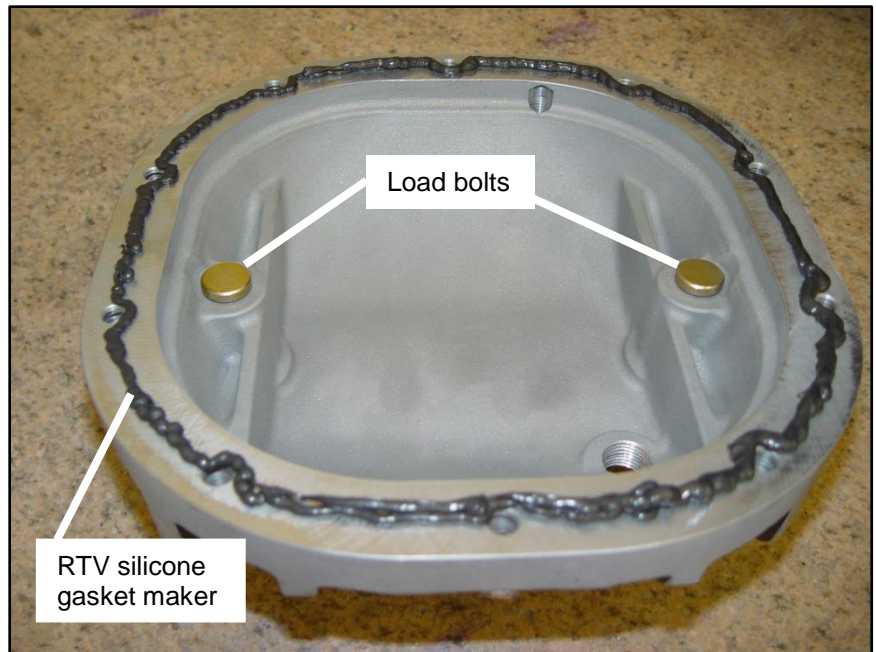

Figure 4
STEP 11. Apply a bead of RTV silicone gasket maker to the **B&M Cast Aluminum Rear End Cover**. Run the bead inside the bolt holes (See Figure 4).